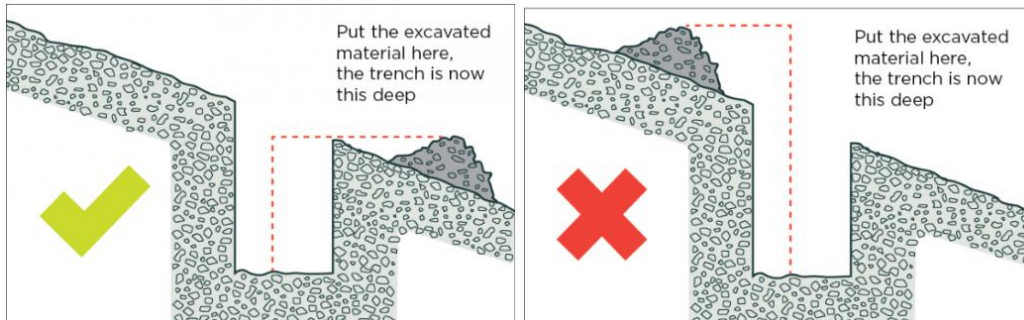

Figure 5. Spoil pile on sloping ground
- If excavating in sloping ground, place the spoil on the lower side of the excavation to reduce the risk of spoil falling into the excavation. See Figure 5.